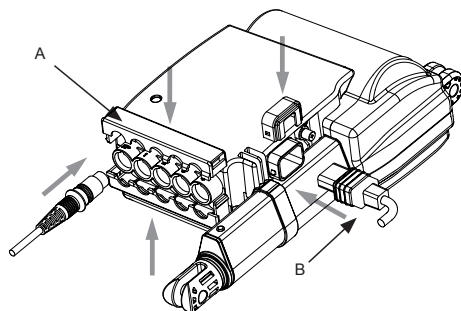

Fig.3
- b.After inserting connectors of an actuator and a key box , vertically insert back the fixer on LAK4D controller (A) , and then fasten the up fixer and down fixer on LAK4D controller (Fig. 3). Before inserting the main power cord , rotate out the locker (B) along the arrow direction to insert power cord (Fig. 3) and then pull it back (Fig. 3) along the arrow direction.